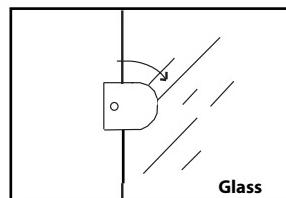

Fig. 2.
2. Turn the two securing brackets back to their original position to retain the glass and tighten the screws (Fig. 2.).